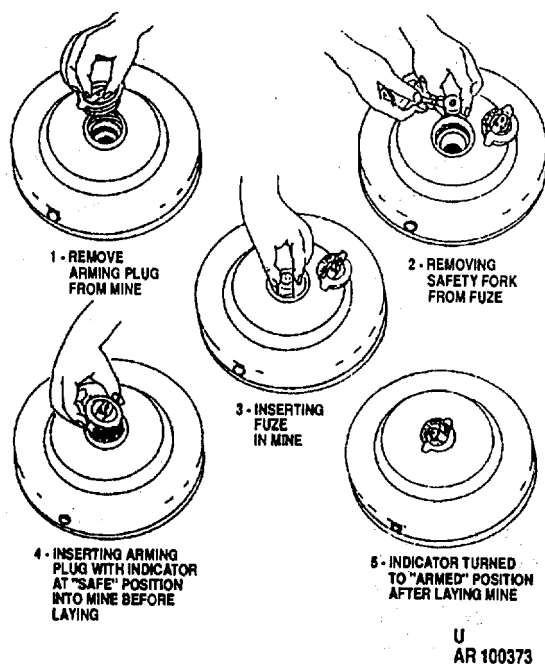
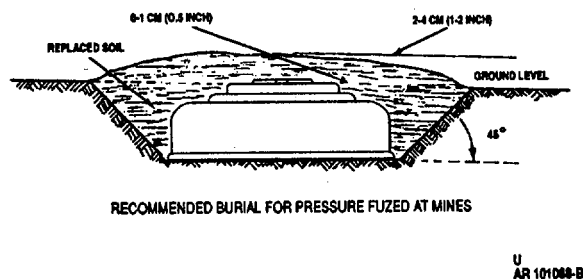

Figure 2-26. Inserting M603 fuze and arming mine M15.
Figure 2-27. Emplacing mine M15.
- (13) For long-term emplacement, smear layer of silicone grease G-697 on threads, gasket, and shutter on underside of the arming plug.
- (14) Screw arming plug clockwise into fuze well of mine (fig. 2-26).
- (15) Tighten arming plug with wrench M20 to assure watertight joint.
- (16) For long-term emplacement:
- (17) Dig hole approximately 15 inches in diameter and 6 inches deep, with walls sloping 45° to avoid bridging (fig. 2-26).
- (18) Check bottom of hole to assure ground is solid and mine will not sink in ground. If not solid, insert wood board or other surface to give mine firm foundation.
- (19) Lay mine in hole so that top surface of pressure plate is approximately 1 1/2 inches below the surface of the ground (fig. 2-27).